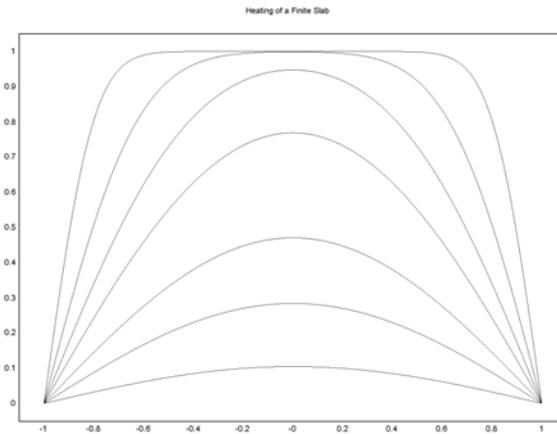

Figure 5-2: Results from the simulation at different time-steps. The top graph is at the smallest time-step, while the lowest graph is at the last time-step.
1. Following the steps given in the documentation of the Comsol Heat Conduction in a Slab tutorial (See next page). Submit a plot similar to Figure 5-2 in the documentation.